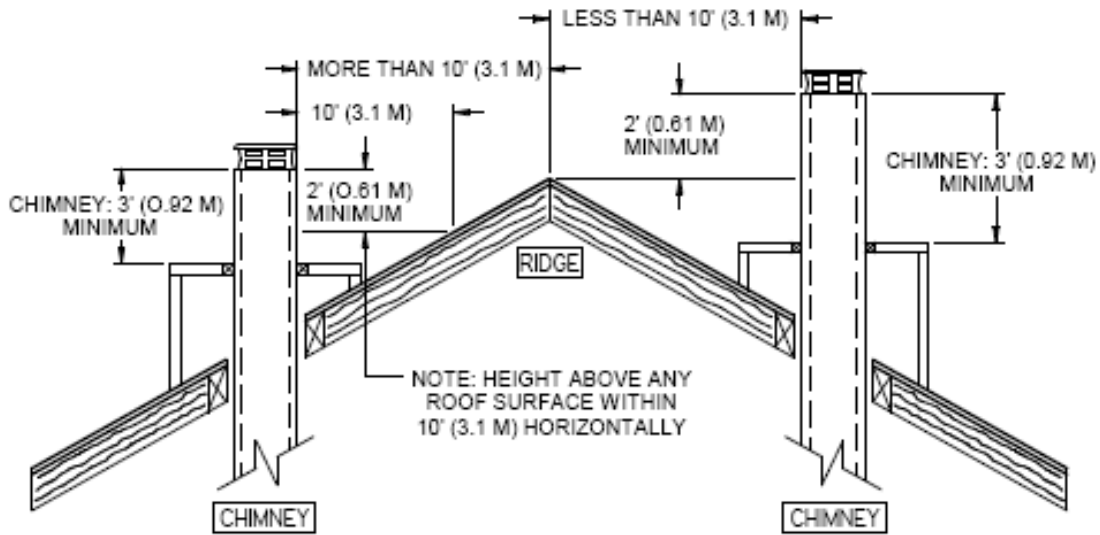

Figure 6.1c
12. When you build a chase enclosure for chimney sections above the roof, the chimney must extend at least 3 ft. (92 cm) above the chase enclosure and at least 2 ft. (61 cm) higher than any wall, roof or building within 10 ft. (3.1 m) of it. See Figure 6.1c and 6.1d to determine the configuration that applies to your roof (flat or sloped roof and the distance between the chimney and the highest point of the roof and/or the nearest chimney).